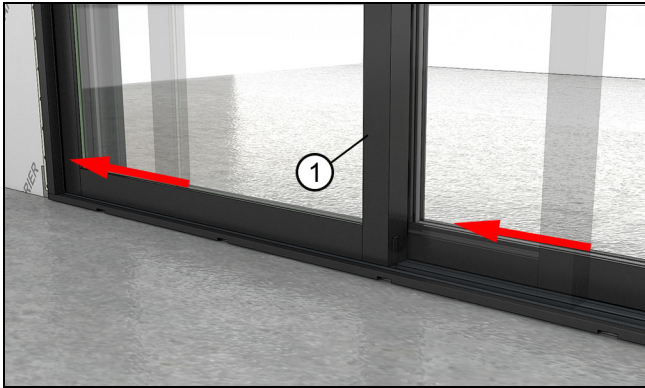

Figure 79 Move stationary panel tight against the jamb
4. Slide the stationary panel tight against the stationary jamb. See Figure 79. Close and lock operating panels.
5. Slide the stationary panel tight against the stationary jamb. See Figure 79. Close and lock operating panels.